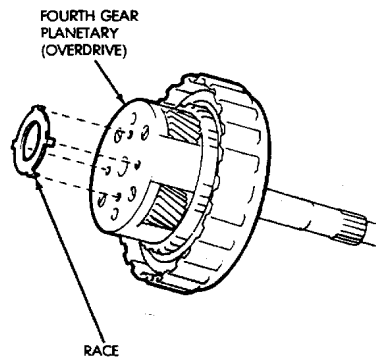

Fig. 18 Remove Fourth Gear Planetary Race
(26) Remove race from fourth gear overdrive planetary (Fig. 18).